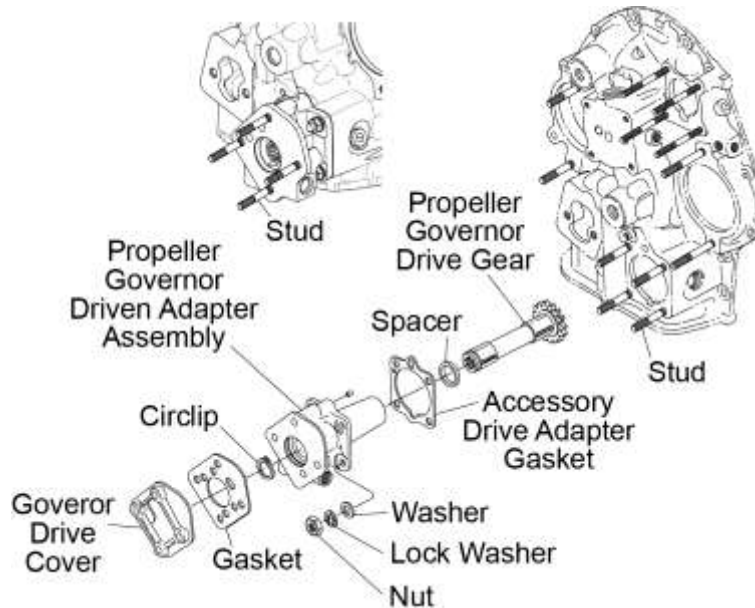

Figure 1
NOTICE: The propeller governor or propeller governor cover can be attached to the propeller governor drive adapter assembly (Figure 1) with either four bolts or four nuts on studs.
- (2) Remove the four nuts or bolts, four lock washers, and four washers from the propeller governor or propeller governor cover (Figure 1). Discard the lock washers.
- (3) Remove the propeller governor or propeller governor cover and governor gasket from the propeller governor drive adapter assembly. Discard the gasket.
- (4) Remove the four nuts, lock washers, and washers from the studs in the accessory housing (Figure 1). Discard the lock washers.
- (5) Remove the propeller governor driven adapter assembly and accessory drive adapter gasket from the accessory housing. Discard the gasket.
- (6) Remove the propeller governor drive gear from the propeller governor drive assembly.
- (7) Remove any remaining gasket material from the propeller governor or propeller governor cover, propeller governor driven adapter, and accessory housing mounting surface.